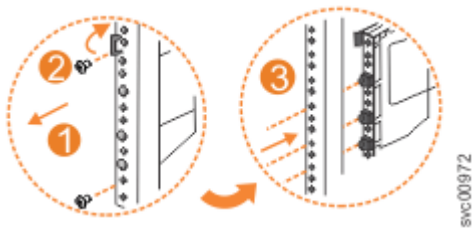

Figure 121. Remove the rail assembly from the front frame bracket
1. Remove the two screws that attach the outer rail section to the front bracket assembly, as shown in Figure 121 on page 108.
2. Remove the rail section by pulling it away from the front bracket, as shown in Figure 121 on page 108.